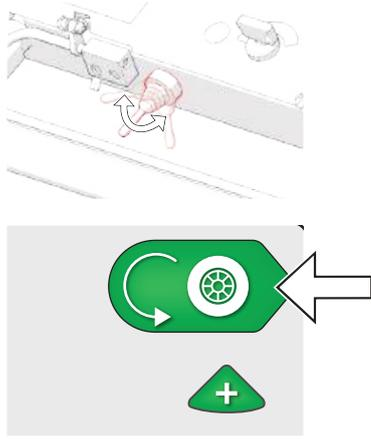

Fig. 9D - Activate drive with either the DES or drive start/ stop button
4. Use the DES to power the drive motor. Alternatively select 'Drive start/stop' on the display screen (Fig. 9D).